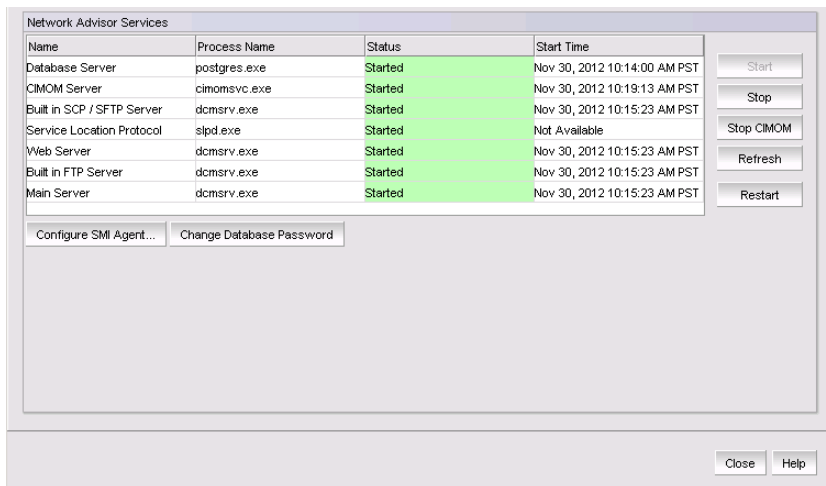

FIGURE 115 Services tab
2. Click the **Services** tab (Figure 115).